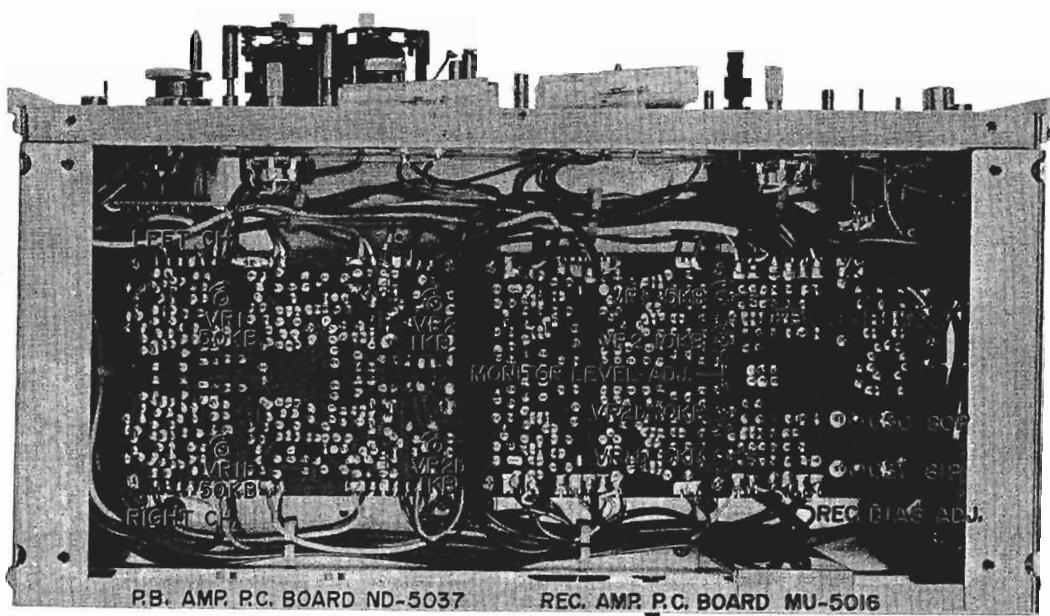

Fig. 19
- 4) Adjust Playback Amp. P.C. Board semi-fixed resistors VR1 50 kB (left ch.), and VR1b 50 kB (right ch.) shown in Fig. 19 to obtain a high sensitivity V.T.V.M. indication of 4 dB (1.228V) line output level on both channels.
After playback level adjustments has been completed, with the playback level of both channels at 4 dB, adjust P.B. Amp. P.C. Board semi-fixed resistors VR2 1 kB (left ch.) and VR2b 1 kB (right ch.) shown in Fig. 19 to obtain a left/right VU meter indication of 0 VU.
- 5) Adjust Recording Amp. P.C. Board semi-fixed resistors VR2 10 kB (left ch.) and VR2b 10 kB (right ch.) shown in Fig. 19 to obtain a high sensitivity V.T.V.M. indication of 4 dB (1.228V) line output level on both channels.
- 7) Adjust Recording Amp. P.C. Board semi-fixed resistors VR1 5 kB (left ch.) and VR1b 5 kB (right ch.) shown in Fig. 19 to obtain a high sensitivity V.T.V.M. indication of 4 dB (1.228V) line output level on both channels.
- 6) Adjust Recording Amp. P.C. Board Trimmer Condenser C30 80p max (left ch.) and C31 80p max (right ch.) shown in Fig. 19 until the same high sensitivity V.T.V.M. indication level is obtained on both the left and right channel at the two frequencies described in Items 5-4) and 5-5) above.